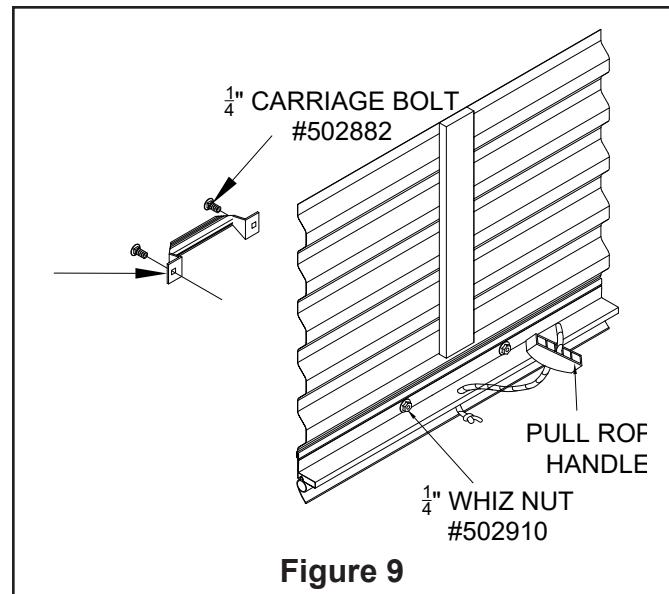

Figure 9
8.1 Pull rope handle: Tie a knot in one end of the rope. Slide the plastic handle onto the rope and pull the knot up into the handle. Pass the other end of the rope through the hole in the center of the bottom edge of the door and tie another knot in the end to keep the rope from pulling through (See *Figure 9*).